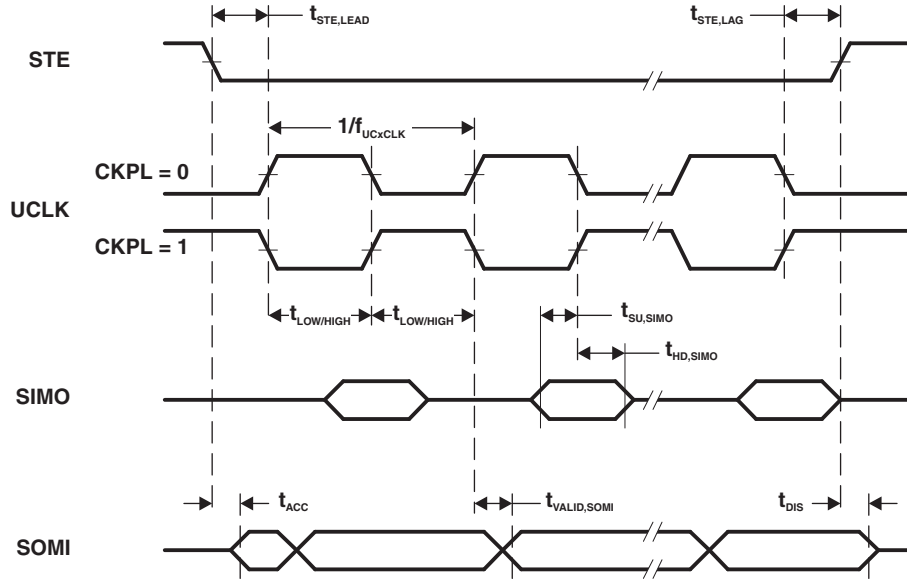
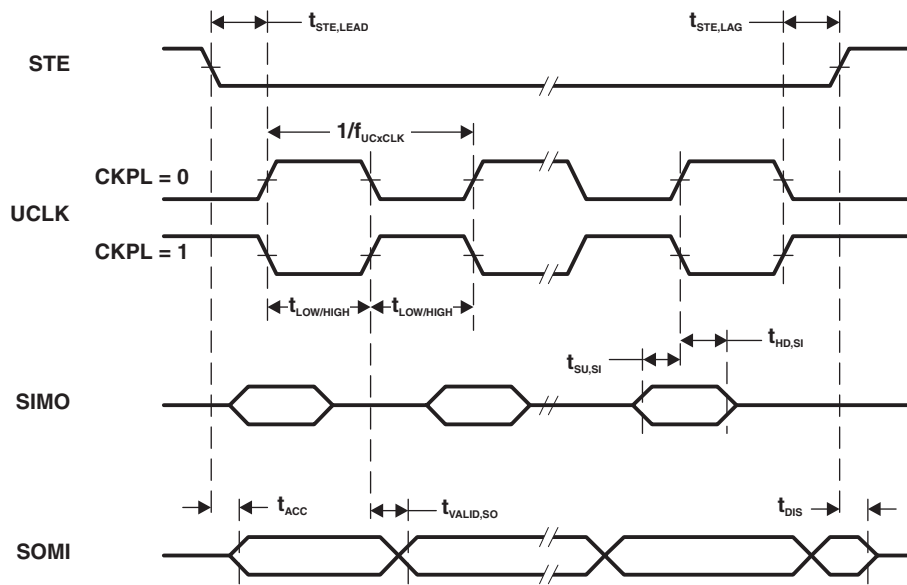

Figure 5-25. SPI Slave Mode, CKPH = 0
Figure 5-26. SPI Slave Mode, CKPH = 1
over recommended ranges of supply voltage and operating free-air temperature (unless otherwise noted)⁽¹⁾ (see Figure 5-25 and Figure 5-26)
- (1) $f_{UCxCLK} = 1/2t_{LO/Hi}$ with $t_{LO/Hi} \geq \max(t_{VALID,MO(Master)} + t_{SU,SI(USCI)}, t_{SU,MI(Master)} + t_{VALID,SO(USCI)})$. For the master parameters $t_{SU,MI(Master)}$ and $t_{VALID,MO(Master)}$, see the SPI parameters of the attached slave.
- (2) Specifies the time to drive the next valid data to the SOMI output after the output changing UCLK clock edge. See the timing diagrams in Figure 5-25 and Figure 5-26.
- (3) Specifies how long data on the SOMI output is valid after the output changing UCLK clock edge. See the timing diagrams in Figure 5-25 and Figure 5-26.